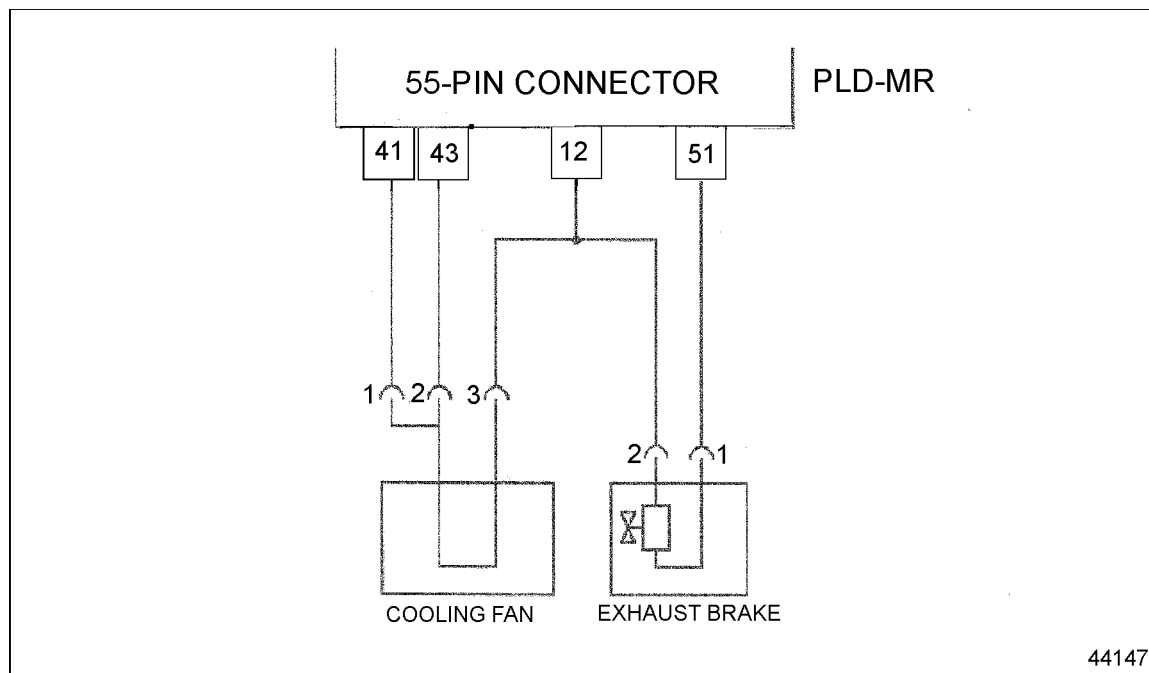

Figure 20-4 Exhaust Brake and Cooling Fan Wiring
See Figure 20-4.
- 2. Measure the resistance between the 55-pin connector wire 51 and vehicle ground. See Figure 20-4.
- 3. Measure the resistance between the 55-pin connector wires 12 and 51. See Figure 20-4.